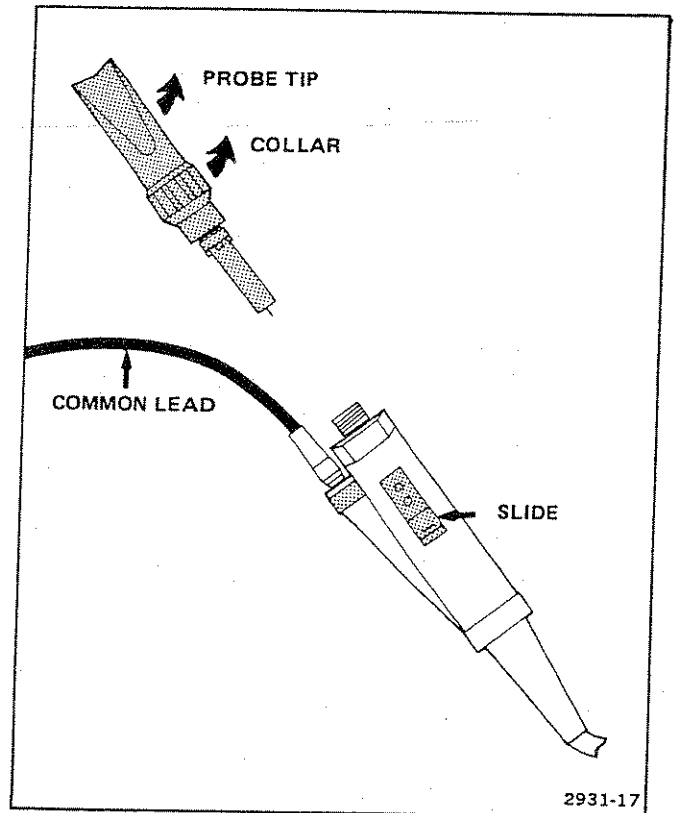

Figure 2-8. Replacing the 3000-V probe tip.
To replace the 3000-V Probe tip with a new one, refer to Figure 2-8 and perform the following steps:
2. Retract the slide to the position shown in Figure 2-8. The slide will stay in this position, and the spring inside the probe tip should cause the probe tip to return to its original position. If this does not occur, hold the slide in the retracted position and pull the probe tip away from the probe body until it reaches its original position.